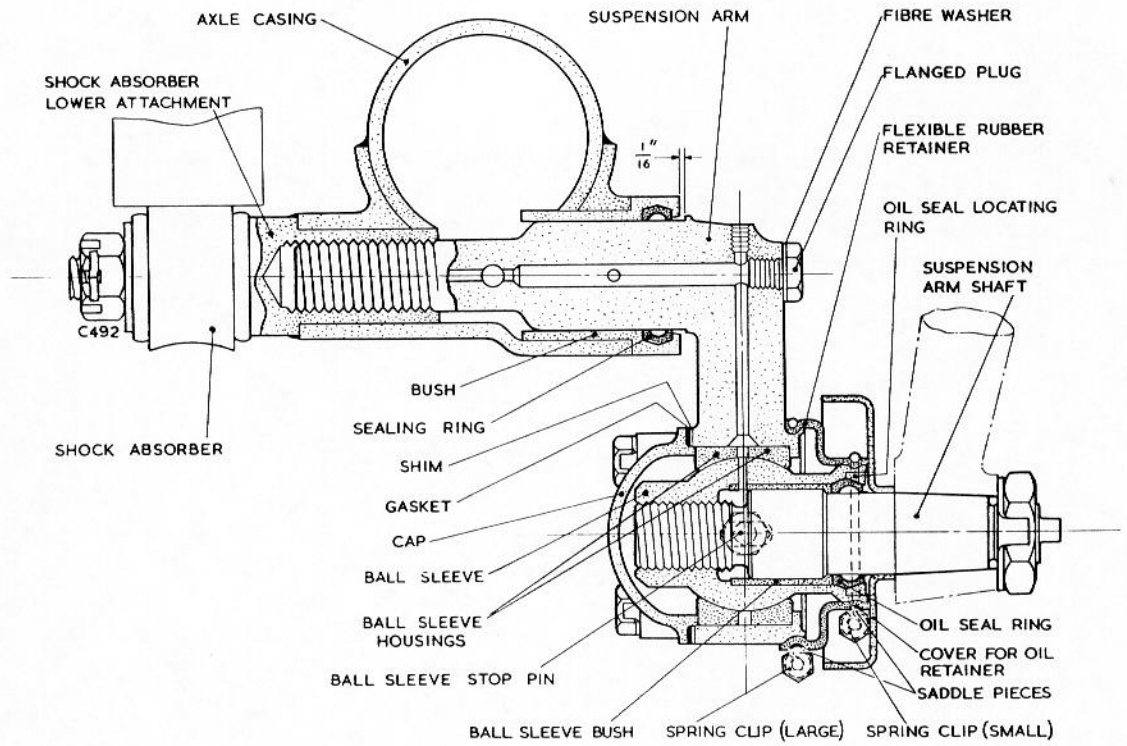

Fig.25 Section of suspension arm unit.
4. Unlock and remove the four nuts securing the suspension arm shaft cap. Remove the cap but do not damage or mislay the gasket and shims, see Fig.25.
During this procedure, refer to Fig.25.